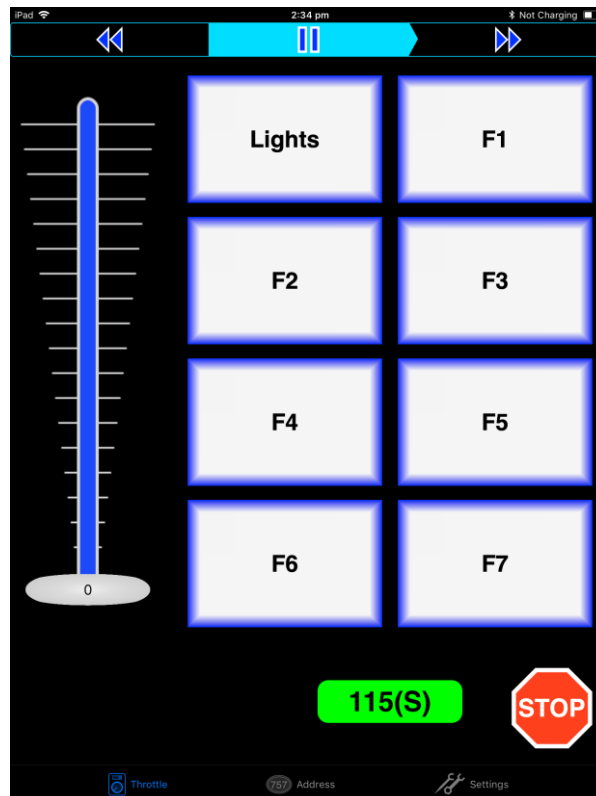

Figure 14 The WiThrottle "Throttle" screen
(12) Tap the Throttle tab at the bottom-left of the screen and you can begin driving as Figure 14. Each time you make a change to the locomotive's state, both the green network LED and the blue Cab Bus LED will flash.